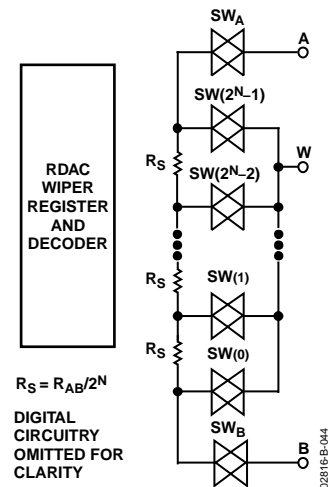

Figure 43. Equivalent RDAC Structure
The patent-pending RDAC contains multiple strings of equal resistor segments with an array of analog switches that acts as the wiper connection. The number of positions is the resolution of the device. The AD5235 has 1024 connection points, allowing it to provide better than 0.1% settability resolution. Figure 43 shows an equivalent structure of the connections among the three terminals of the RDAC. The SWA and SWB are always on, while the switches SW(0) to SW(2N–1) are on one at a time, depending on the resistance position decoded from the data bits. Because the switch is not ideal, there is a 50  $\Omega$  wiper resistance, Rw. Wiper resistance is a function of supply voltage and temperature. The lower the supply voltage or the higher the temperature, the higher the resulting wiper resistance. Users should be aware of the wiper resistance dynamics, if accurate prediction of the output resistance is needed.
The 10-bit data-word in the RDAC latch is decoded to select one of the 1024 possible settings. The following discussion describes the calculation of resistance  $R_{WB}$  at different codes of a 25 k $\Omega$  part. The wiper's first connection starts at Terminal B for data 0x000.  $R_{WB}(0)$  is 50  $\Omega$  because of the wiper resistance, and it is independent of the nominal resistance. The second connection is the first tap point where  $R_{WB}(1)$  becomes 24.4  $\Omega$  + 50  $\Omega$  = 74.4  $\Omega$  for data 0x001. The third connection is the next tap point representing  $R_{WB}(2)$  = 48.8  $\Omega$  + 50  $\Omega$  = 98.8  $\Omega$  for data 0x002, and so on. Each LSB data value increase moves the wiper up the resistor ladder until the last tap point is reached at  $R_{WB}(1023)$  = 25026  $\Omega$ . See Figure 43 for a simplified diagram of the equivalent RDAC circuit. When  $R_{WB}$  is used, Terminal A can be left floating or tied to the wiper.